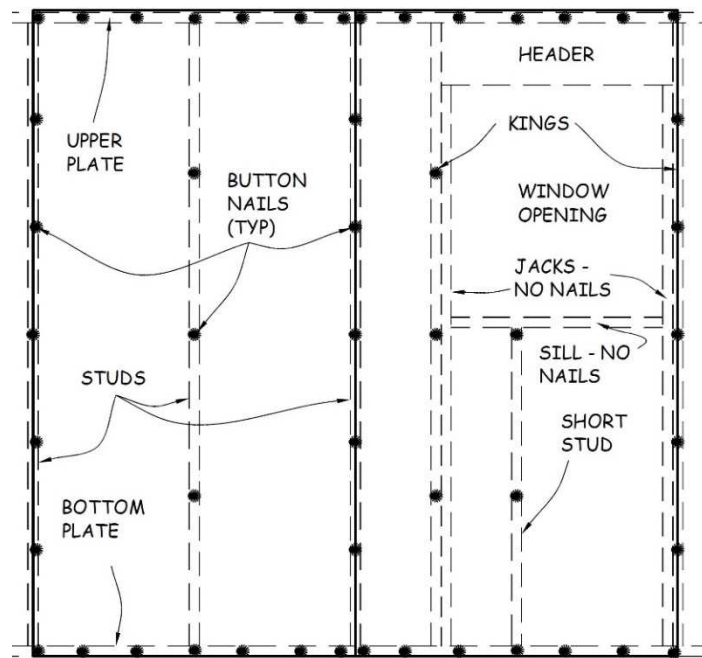

Figure 5-2. Foamboard Nailing Pattern.
6. On side and back walls, install 1" foamboard sheathing between OSB wind bracing, over the house wrap and flush to the bottom of the bottom plate. Position the foamboard so the grooved side is butted up against any OSB. If this is not possible, cut off the "tongue" of the foamboard before placing it next to the OSB. Nail the foamboard with 2" button nails following the Foamboard Nailing Pattern: seven equally spaced nails down each side stud, five down the middle stud, and two between each stud in the upper and bottom plates (see Figure 5-2). The seven nails down each side stud can be shared between two abutting pieces of foamboard. Position the nail in the middle of the gap between the two so that the "button" holds both pieces of foamboard in place (see Figure 5-2).
8. Install ½" foamboard over all OSB, flush on all sides. Nail with 1" button nails following the Foamboard Nailing Pattern described in Step 6 above and shown in Figure 5-2. Tape all seams and any broken score lines with air sealing tape.
13. Install ½” foamboard over all OSB, flush on all sides. Nail with 1” button nails following the Foamboard Nailing Pattern described in Section 5.3.6 and shown in Figure 5-2. Tape all seams with air sealing tape.